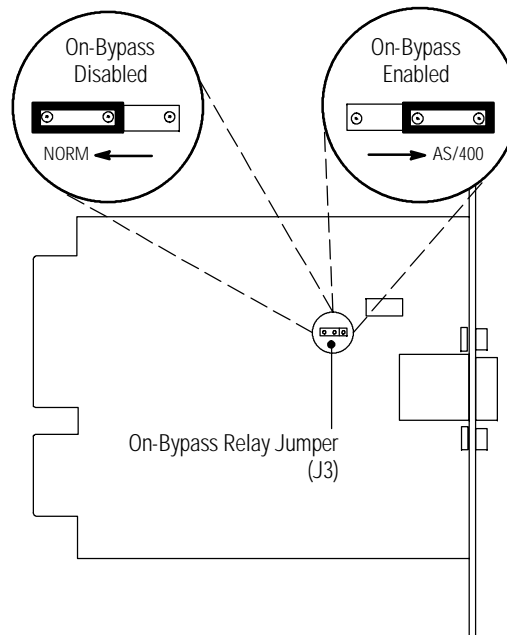

Figure 22. On-Bypass Relay Jumper
2. Move the J3 jumper to the AS/400 position to enable the On-Bypass relay as shown in Figure 22.